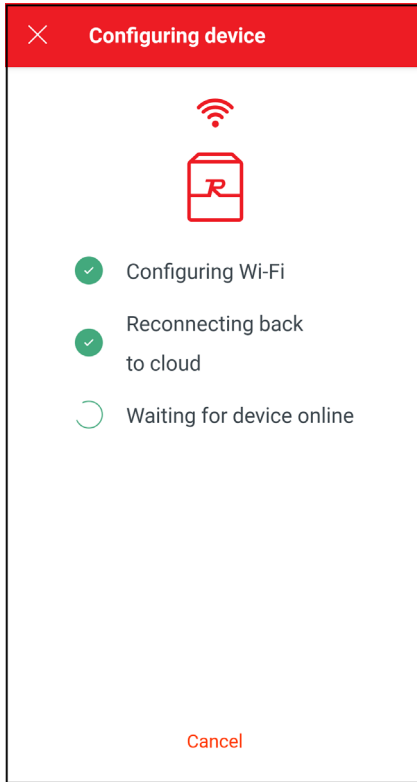

Figure 88. Configuring Device
- The Raymote mobile app will provide the Wi-Fi network credentials to your unit. See **Figure 88**.